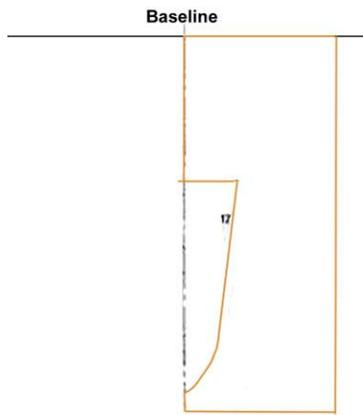

Figure 15. Outline of an external template.
17. Templates for checking the shape of the end blocks need to be external – you cut out the portion inside the line. If you took account of the planking thickness as described in Step 5, you can use the outline directly from the Body Plan. You can make a one-half external template and use it for both sides, as shown in Figure 15 for section 17.